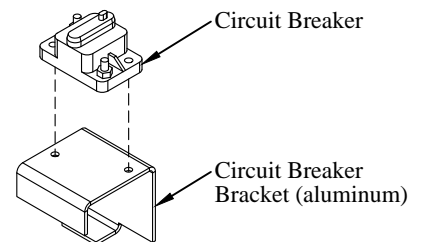

Figure 13: Circuit breaker bracket.
1. **Install** the circuit breaker onto provided aluminum bracket (Figure 13).